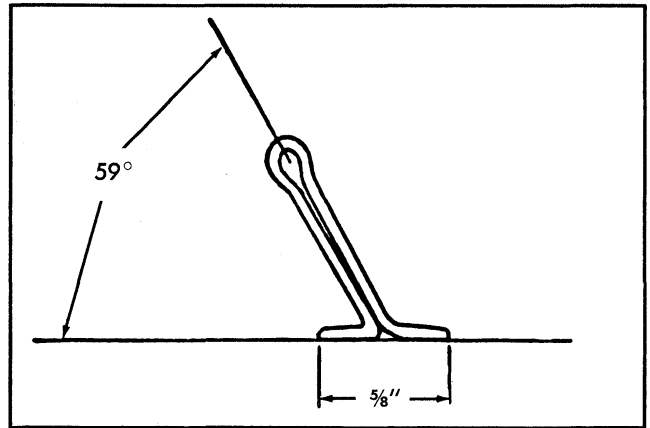

Fig. 6-132 Tool for Removing Upper Half of Main Bearing
4. Make a tool for removing upper half of bearing shell as shown in Fig. 6-132. KMO 734 can also be used.